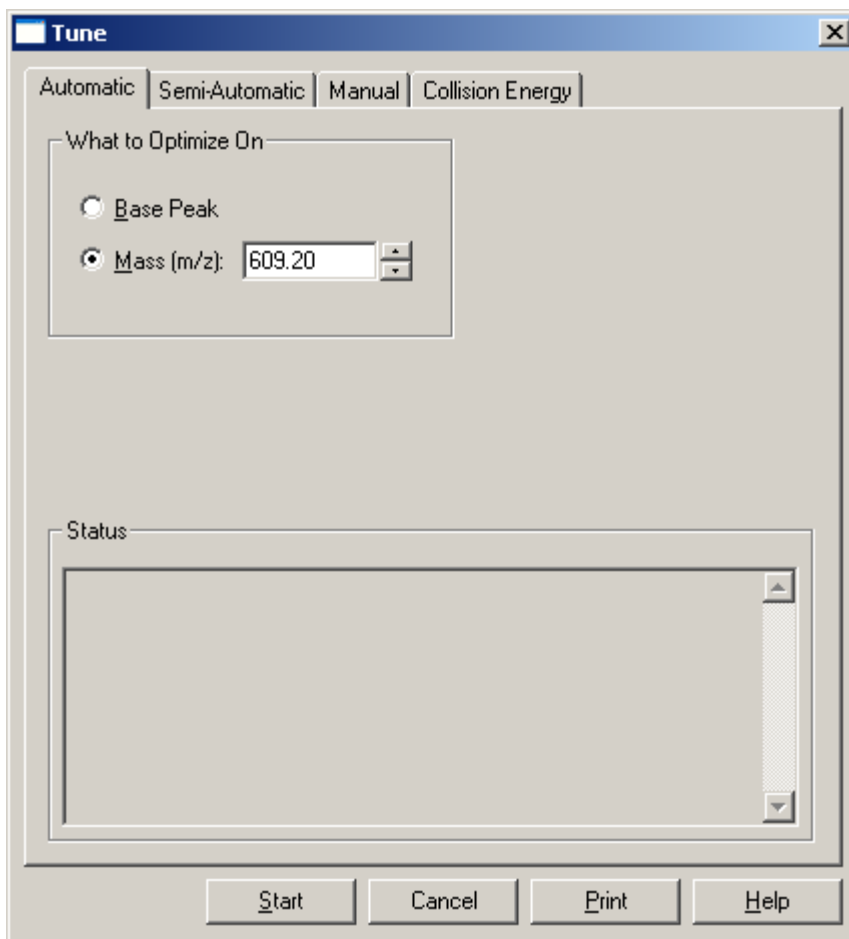

Figure 59. Tune dialog box, showing the Automatic tuning page
1. On the Control/Scan Mode toolbar, click **Tune** to display the Automatic tuning page. See Figure 59.